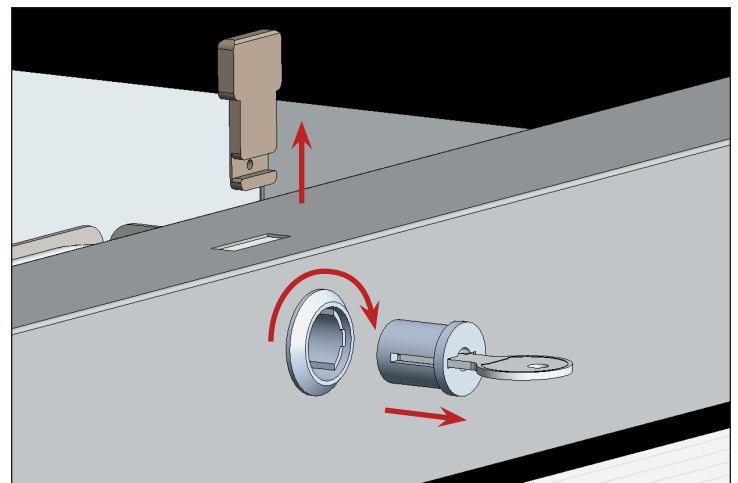

Fig. 2. Remove the cam and lock cylinder
3. While holding the cam, pull the key and lock cylinder from the lock barrel. See fig. 2.
4. Slide the lock cam out of the lock barrel. See fig. 2.